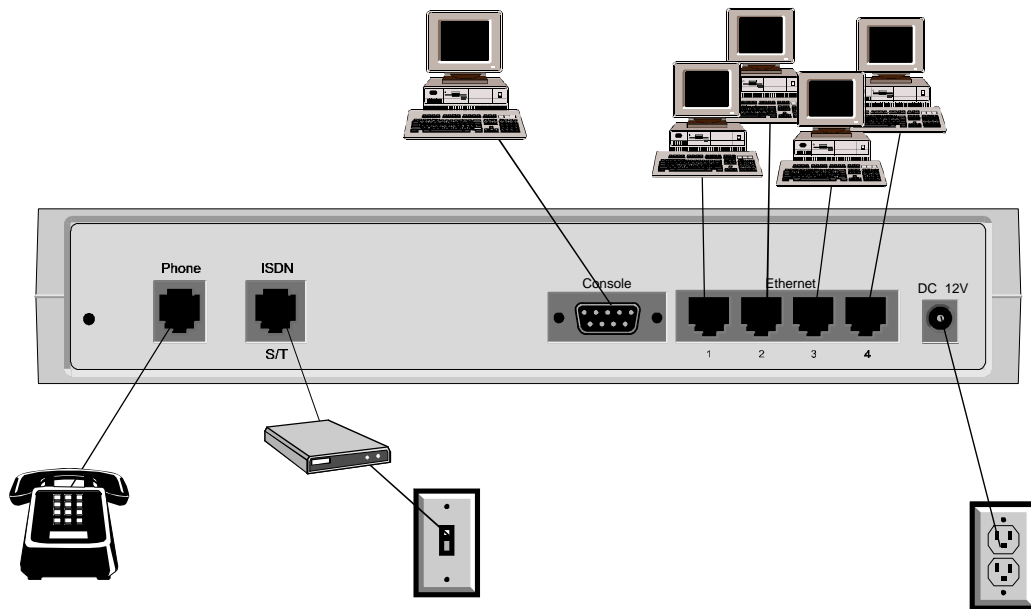

Figure 3-1: ISDN Port Connections
The OmniConnect/ISDN (U) is connected to the ISDN line using the supplied RJ-45 (8-pin) to RJ-45 (8-pin) cable, as shown in Figure 3-1. It is also possible to use an RJ-11 to RJ-45 cable. The U interface on the OmniConnect access device may also use either an RJ-11 or RJ-45 cable for connection to the ISDN network since only the middle two pins are being used.
The OmniConnect/ISDN allows a single connection to a standard POTS (Plain Old Telephone System) line. Standard analog telephones, facsimile machines, modems, etc., can be connected to the access device. To connect the analog device to the access device, connect the telephone cable (provided) to the RJ-11 port (labeled Phone on the rear panel of the access device as shown in Figure 3-1.